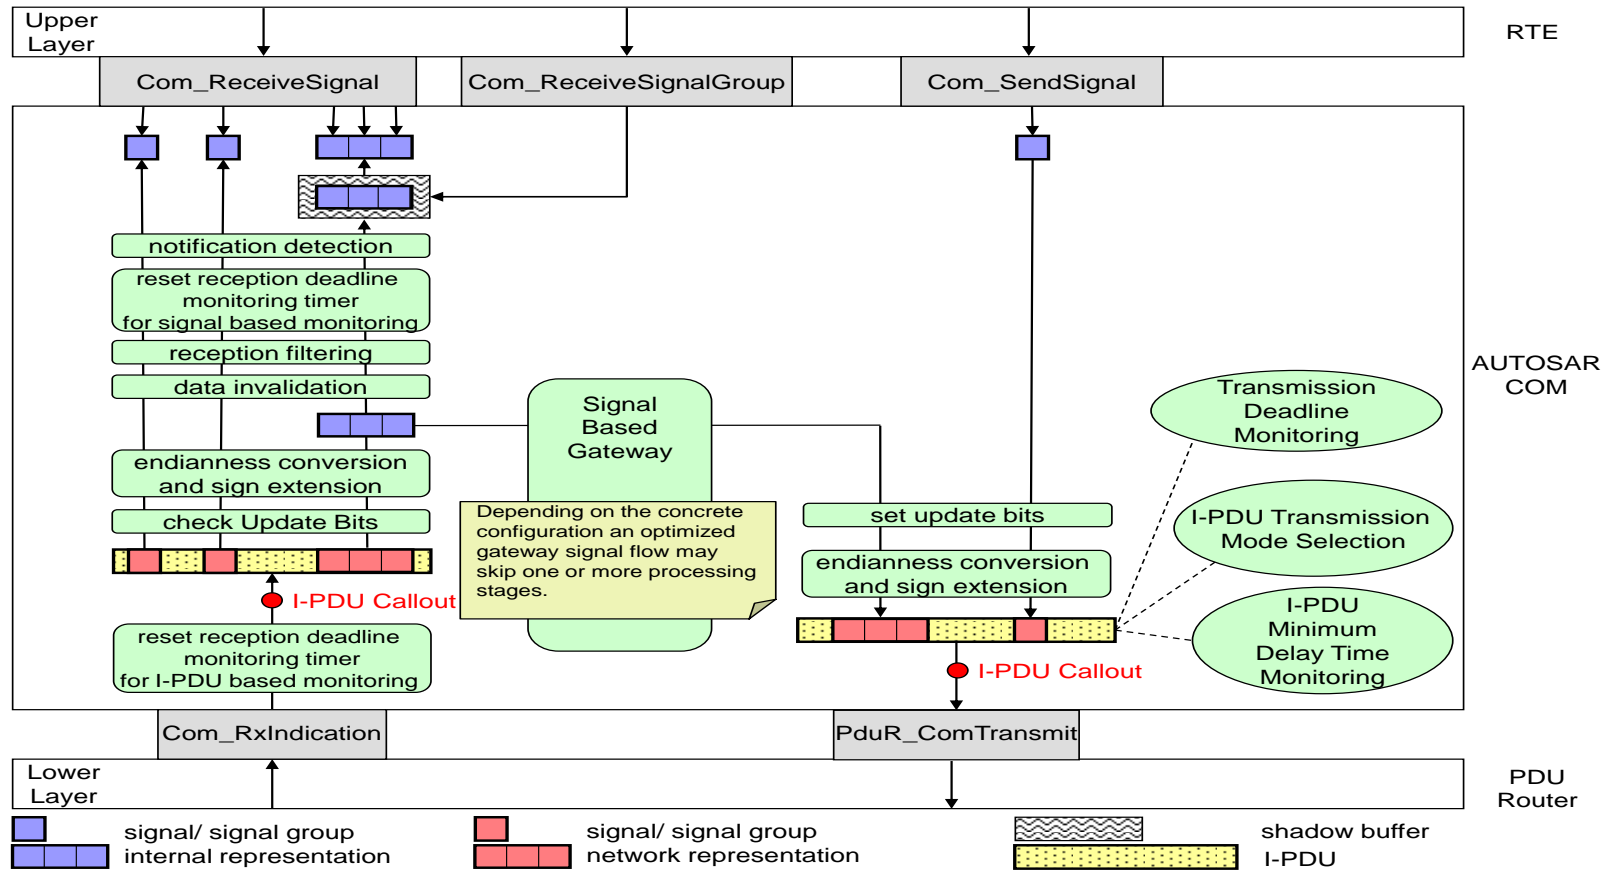

Figure 5: The AUTOSAR COM module's interaction model for integrated Signal Gateway
**[SWS\_Com\_00872]** [The Signal Gateway shall support the following I-PDU/ signal-processing stages on the receiver side (see also Figure 5):
**[SWS\_Com\_00873]** [The Signal Gateway shall support the following I-PDU/ signal-processing stages on the sender side (see also Figure 5):